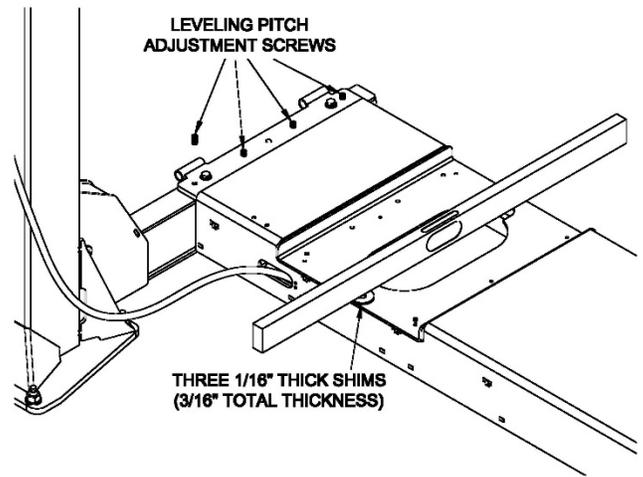

Fig 26 – Runway Pitch Adjustment
- 74) Place the level in a front turn plate cutout, **Fig 26**. Place three 1/16" thick column shims (3/16" total thickness) under the level at the outside edge of the cutout and adjust the runway pitch leveling screws until the bubble is centered between the lines. Make sure all leveling screws are touching the crossbeam. Torque runway bolts to 60–80-foot pounds and recheck the level. Repeat for other side. (The rear of the runway usually does not require pitch adjustment as this is a closed rear crossbeam.)